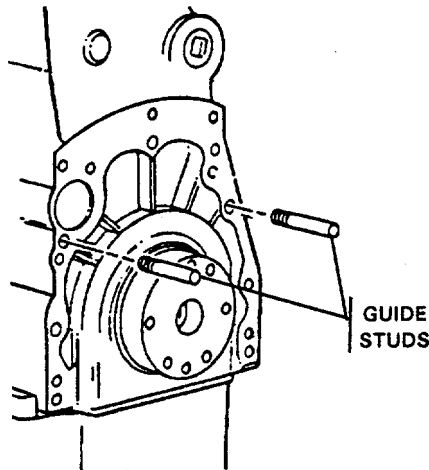

FIGURE 3-68. Housing Alignment Guide Studs.
- (1) Install two 5/8-18 x 4 inch guide studs (Figure 3-68) in the cylinder block to help support and align the housing during installation.